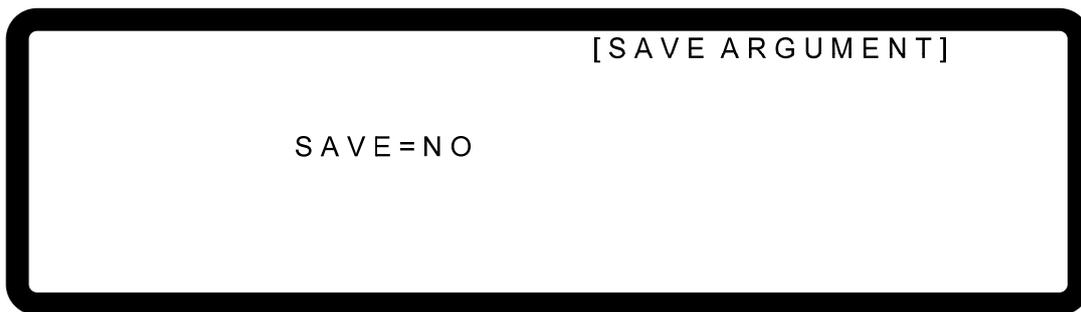

Figure 3-115
8. The APG Voltage calibration is done once the above actions are completed. To save the calibration data, press “” will prompt a confirmation page as Figure 3-115 shows. Press “” or “Rotary” () to set SAVE=YES and press “” to save it. If there is no need to save it, press “” to return to the Calibration screen.